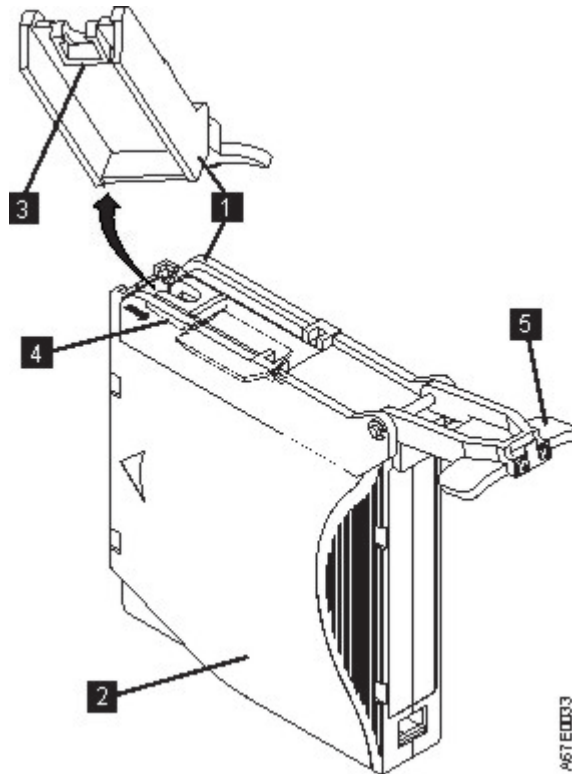

Figure 99. Attaching the leader pin attach tool to the cartridge. To hold the cartridge door open, hook the tool into the door and pull the tool back.
1. Attach the leader pin attach tool (**1** in Figure 99 on page 162) to the cartridge **2** so that the tool's hook **3** latches into the cartridge's door **4**. Pull the tool back to hold the door open, then slide the tool onto the cartridge. Open the tool's pivot arm **5**.